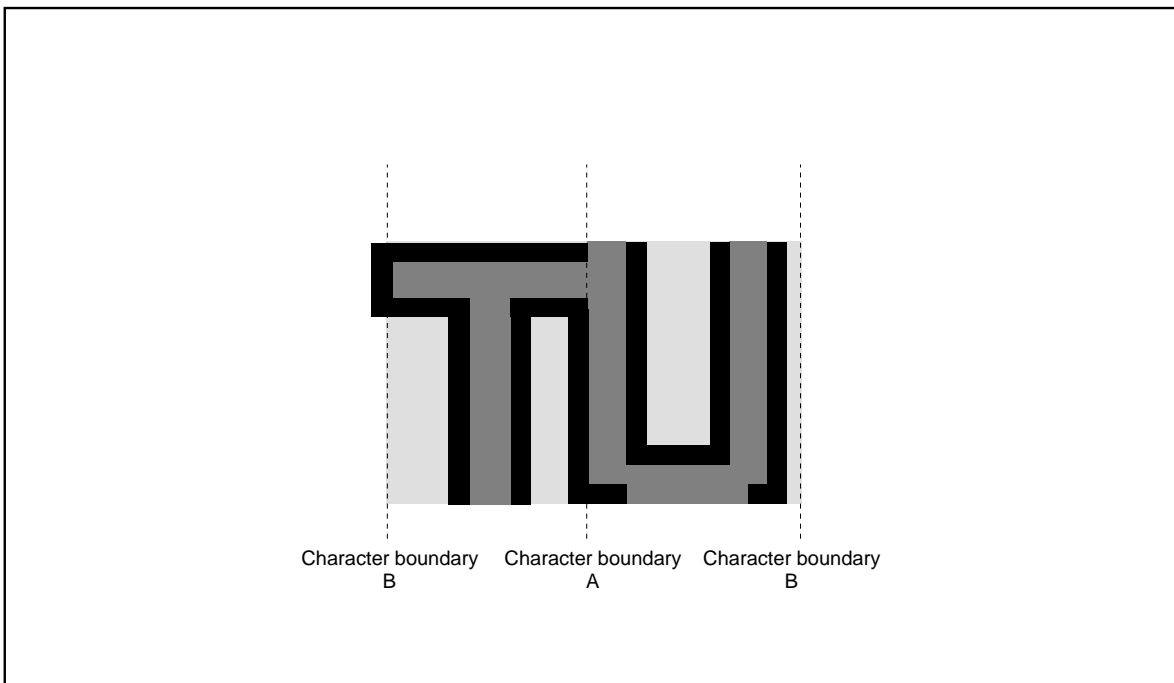

Figure 2.16.37 Border priority
- 2 :** When the border dot overlaps on the next character font, the character font has priority (refer to Figure 2.16.37 A). When the border dot overlaps on the next character back ground, the border has priority (refer to Figure 2.16.37 B).